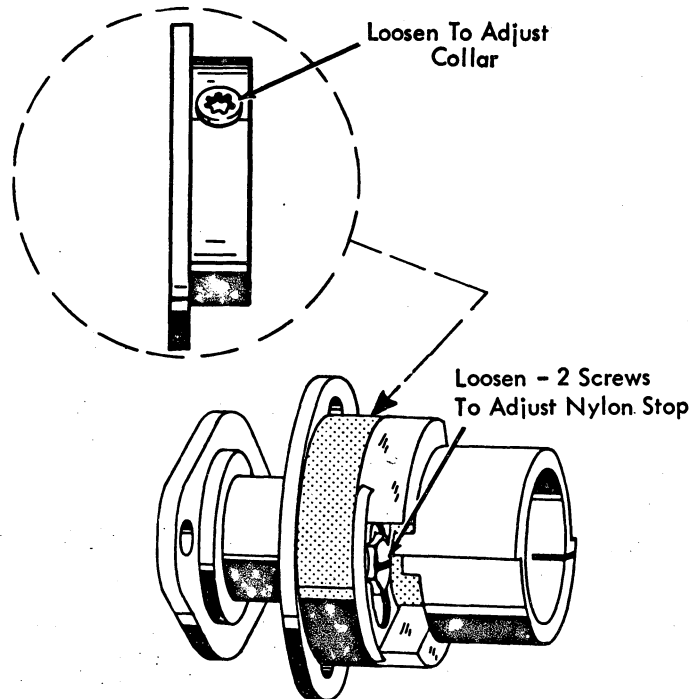

FIGURE 92. Cycle Clutch Overthrow Stop, Early Style
4. **Cycle Clutch Overthrow Stop** - With the cycle clutch latched and the cycle shaft backed up against the check pawl in its rest position, advance or retard the overthrow stop on the cycle clutch collar so that it will allow the cycle shaft to overthrow its latched position by .007" to .015" (Fig. 91 or Fig. 92).